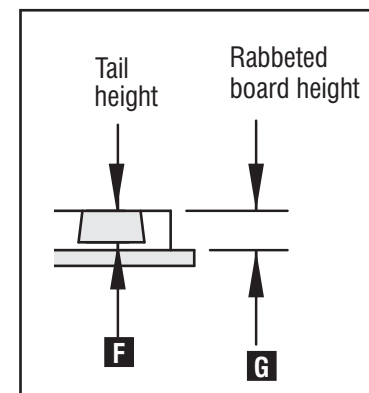

Fig. G7
NOTE: Remember that the tail height (F) Fig. G7 (or router bit depth) can't be greater than the height of the rabbet (G).